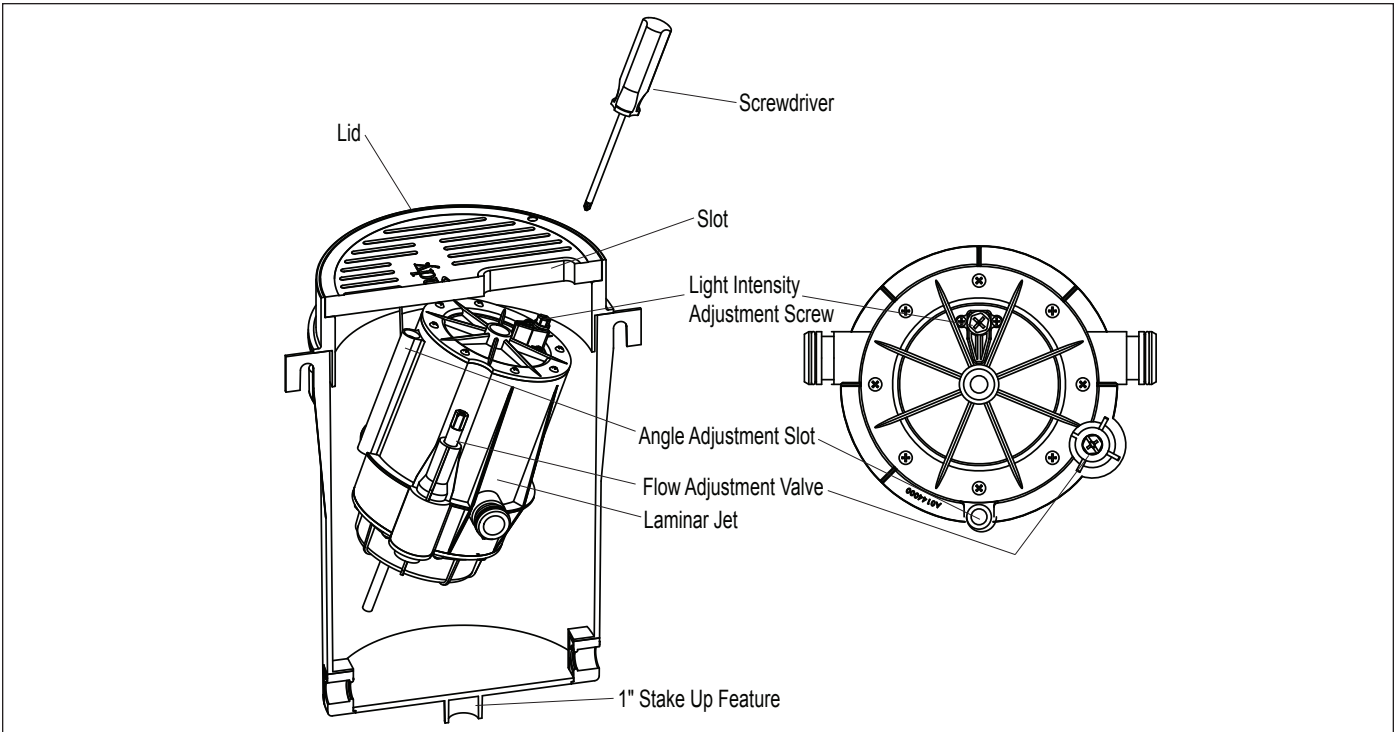

Figure 10. Laminar Jet Light and Flow Adjustment
2. Ensure the flow adjustment valve is open by turning it counter-clockwise until it stops with a screw driver or a 1/2" socket wrench. Refer to Figure 10.
5. To adjust the angle of the jet move the laminar jet up or down to increase or decrease the angle by hand or using a screwdriver in the angle adjustment slot shown in Figure 10.